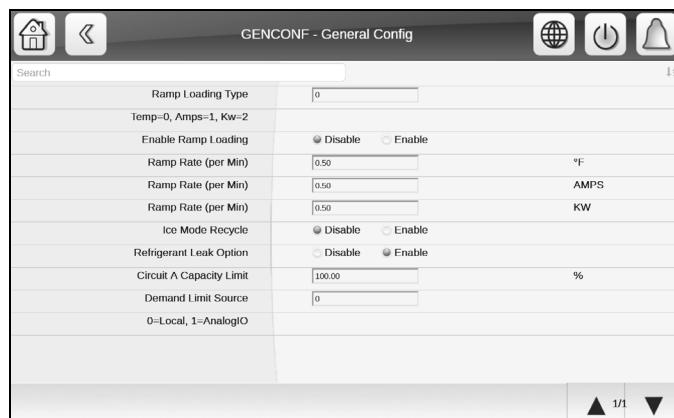

Fig. 46 – General Configuration Menu
7. The compressor may operate at full capacity for a short time after the pulldown ramping has ended, even though the building load is small. The active electrical demand setting can be overridden to limit the compressor kW, or the pulldown rate can be decreased to avoid a high demand charge for the short period of high demand operation. Pulldown rate can be based on load rate or temperature rate. Pulldown ramp rate is configured in General Configuration Menu (Fig. 46).